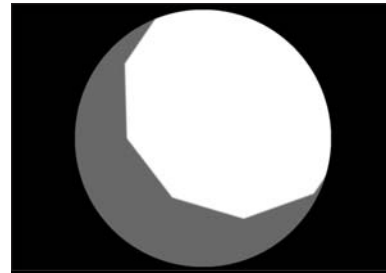

Figure 25
13. If it is not well focused use the main focus controls to bring it in so. Set the iris opening to where it almost completely fills the field of view (figure 25).